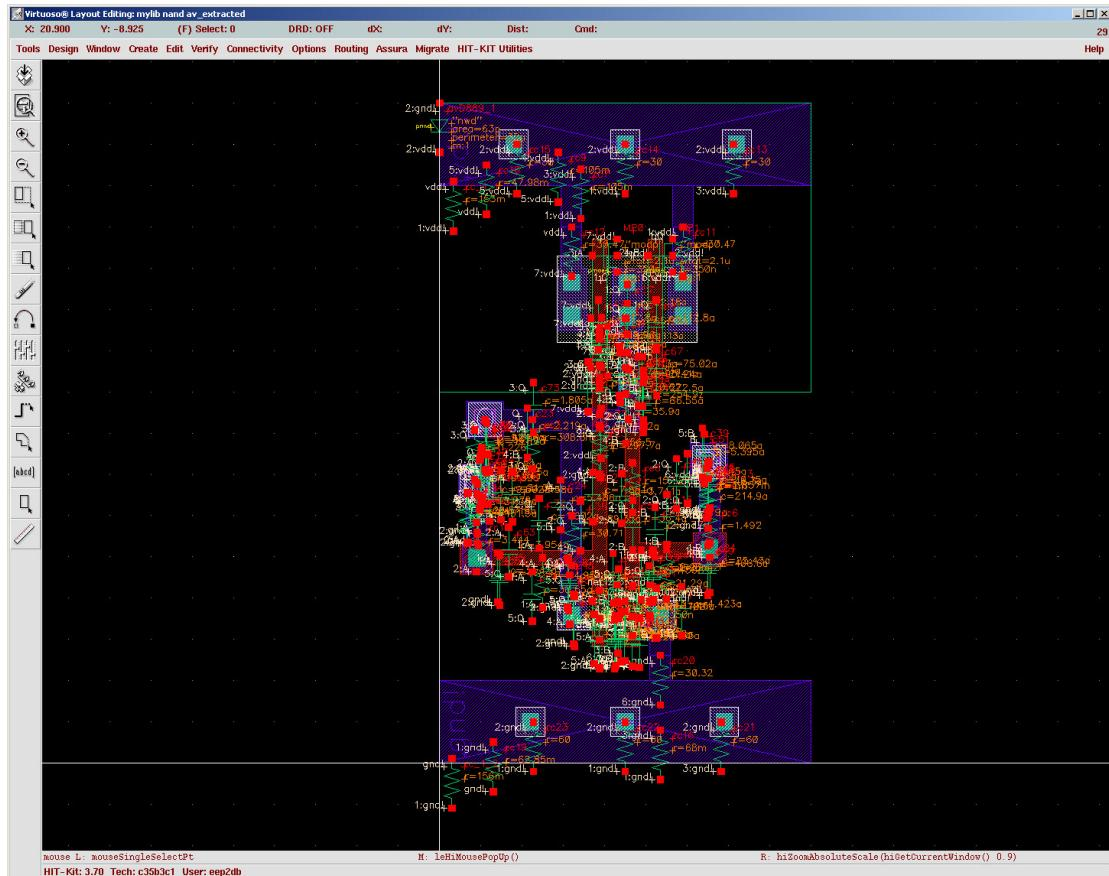

Figure 59. Extracted View of NAND Gate
9. Hit **Shift-f** to flatten. You should get a layout as in Figure 59.